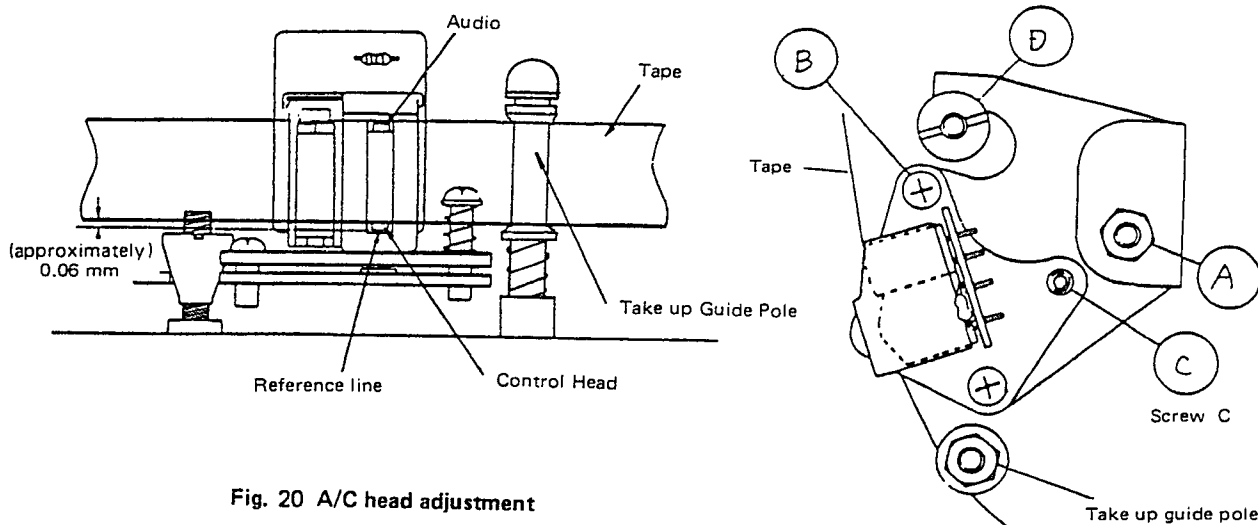

Fig. 20 A/C head adjustment
2. Turn screw © (Fig. 20) and adjust for smooth transport at the take-up guide pole.
2. Turn nut ①, screw ② and ③ in succession by small and equal increments at a time and adjust for maximum audio output level. With reference to nut ①, adjust azimuth with screw ② and screw ③ so that small tape wrinkles are not produced at the guide pole, but at the same time, audio output becomes maximum and level fluctuations minimum. It is suggested to first turn nut ① by a small amount, then turn screws ② and ③ by an equal amount and set for maximum output.
3. Carefully and evenly adjust nut ①, screw ② and ③ to align the audio/control head height with the tape as shown in Fig. 20.